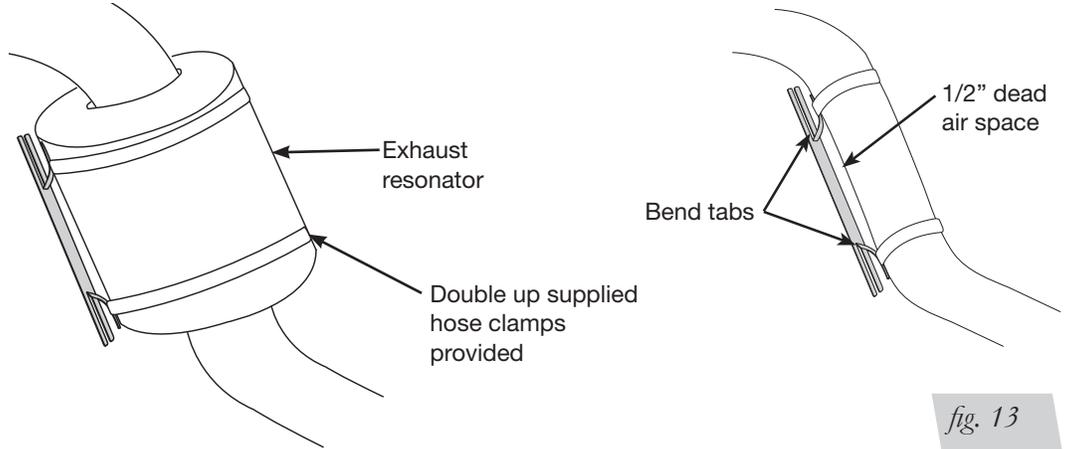

fig. 13
1. Bend tabs to provide a dead air space between exhaust pipe and heat shield. (Fig. 13)
Some vehicles have large resonators in this area; it will be necessary to double up on the clamps to fit these models (Fig. 13).